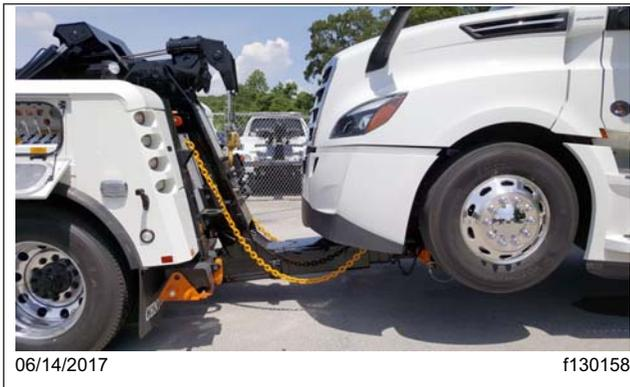

Fig. 26.15, Safety Chains Connected on the Towed Vehicle
16. Connect the safety chains. See Fig. 26.15.